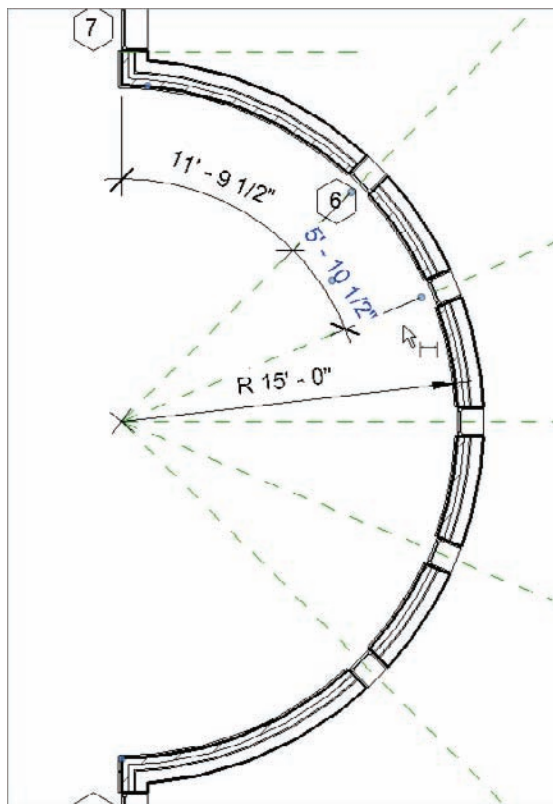

FIGURE 5.24 Adding a second Arc Length dimension
5. Pick a point to place the dimension (see Figure 5.24).